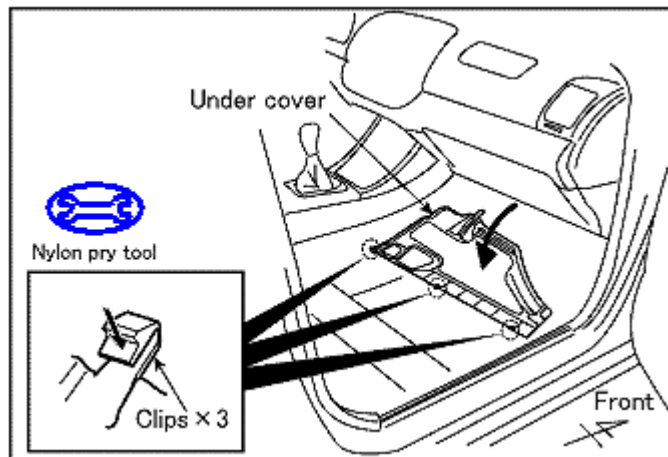

Figure D1
-  i. Use nylon pry tool to disengage clips on under dash cover. (Figure D1)